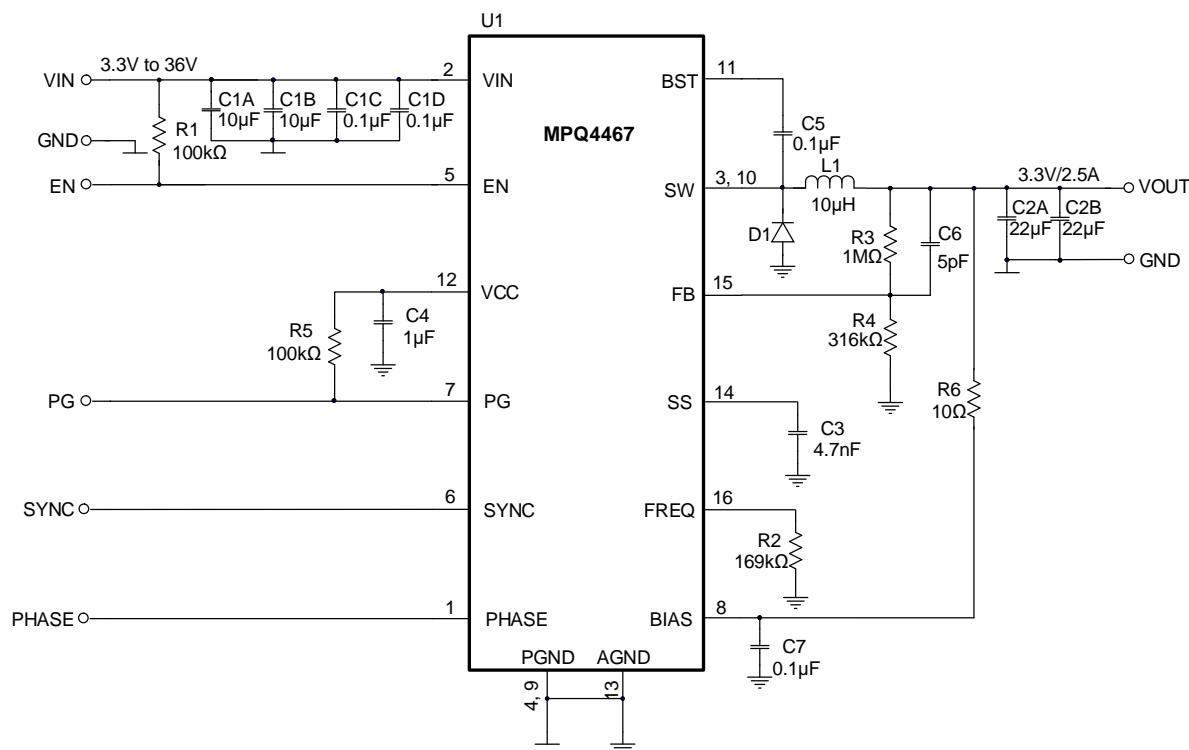

Figure 9:  $V_{OUT} = 3.3V$ ,  $f_{SW} = 500kHz$
7) The recommended PCB layout is based on Figure 9.